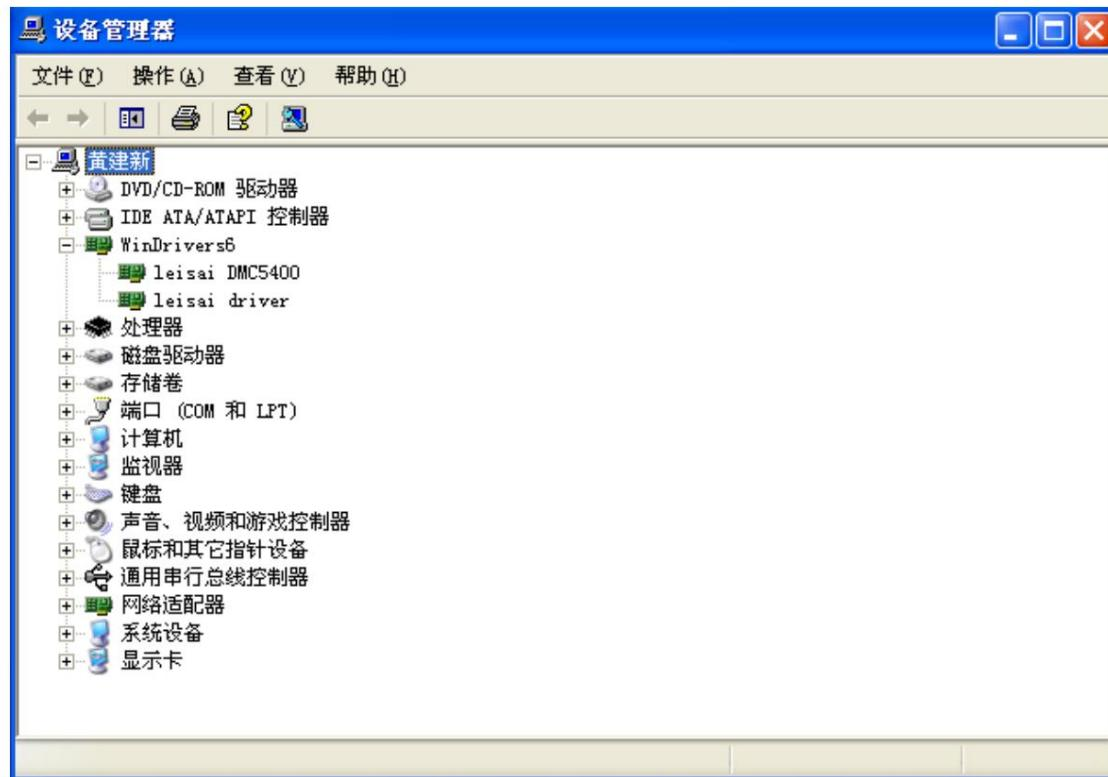

Figure 5-15 Device status displayed by the resource manager
9. This completes all the installation process of the driver, you can see leisai in the device manager DMC5400 device and LeisaiDriver device, as shown in Figure 5-15: